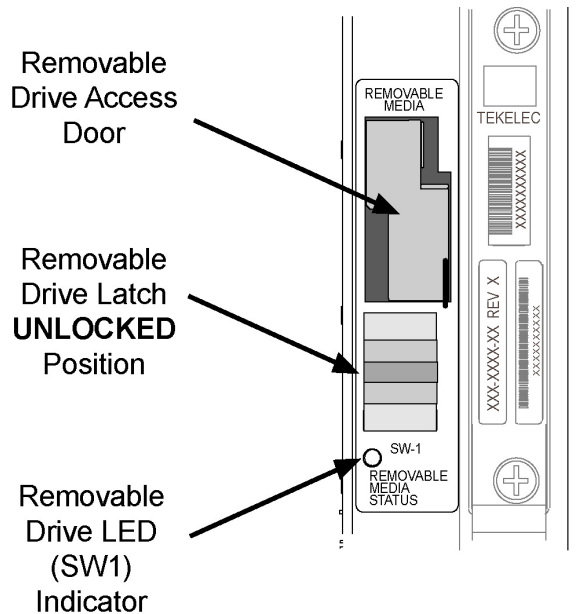

**Figure 7: Removable USB Drive UNLOCKED**
2. Move SW1 from the LOCKED to the unlocked position and wait for the LED to indicate a steady blue state. See Figure 7: Removable USB Drive UNLOCKED.